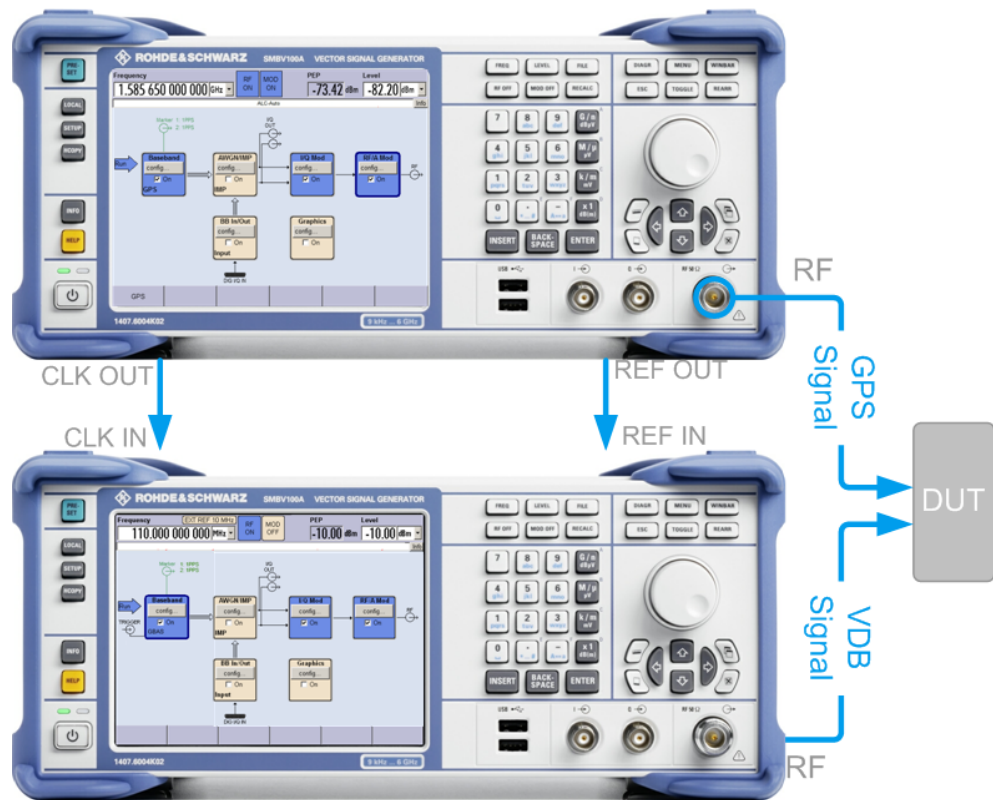

Fig. 9-1: Example of test setup
- ▶ Connect the instruments to work in master-slave mode, see figure 9-1.